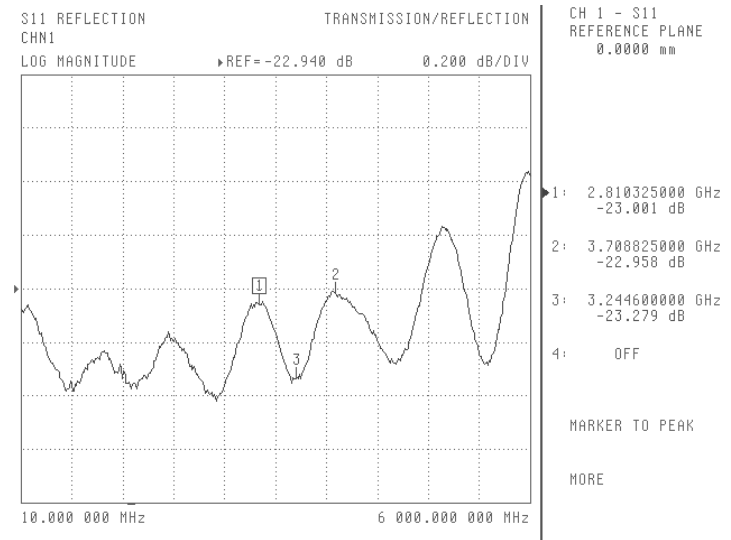

Figure 4-2. Measuring Peak-to-Peak Ripple
Step 10. Using the rotary knob, position Marker 1 and Marker 2 to adjacent peaks of the ripple with the greatest negative trough (or adjacent troughs if the ripple has the greatest positive peak). Also, position Marker 3 to the bottom of the trough (or the top of the peak if the ripple has the greatest positive peak). Refer to Figure 4-2.